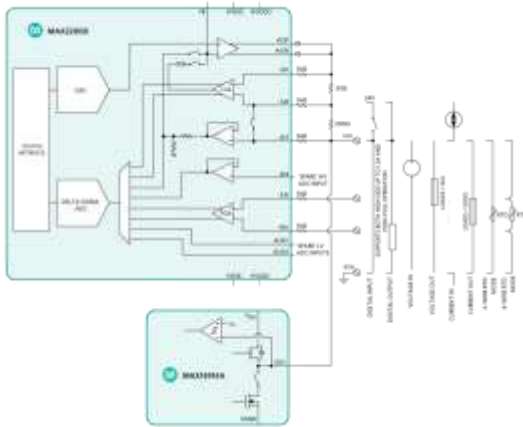

Figure 1. On-the-fly software-configurable IO.
The MAX22000 is an on-the-fly, software-configurable, industrial-grade analog input/output (IO) device with voltage and current options. The MAX14914A is an industrial-grade digital IO device designed to complement the MAX22000 for universal IO applications. See **Figure 1**, which shows different IO modes for the industry-standard 4-terminal connectors that support 2, 3, and 4-wire modes of operation. Together, these devices enable a configurable analog/digital IO feature at the same terminal, which can support all common signal types and ranges as described in Table 1.